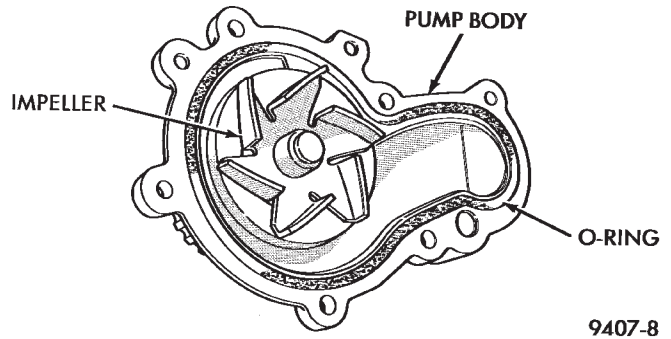

Fig. 16 Water Pump Body — 2.0L Gasoline
(1) Install new O-ring gasket in water pump body O-ring groove (Fig. 16). Use small dabs of Mopar Silicone Rubber Adhesive Sealant around the water pump body to secure O-ring in place during installation.